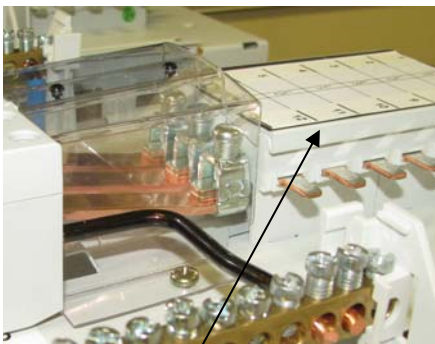

Fig.1
2. Fit the three live links to the RCD / Isolator phase terminals and tighten to hold. See Figs 1& 2 and notes on link fitting